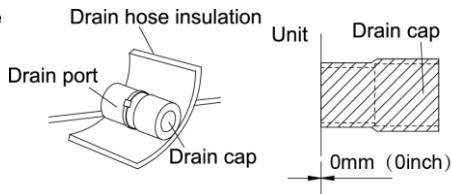

Fig. 4.26
- (10). The unused drain port also should be insulated properly (Fig. 4.26).